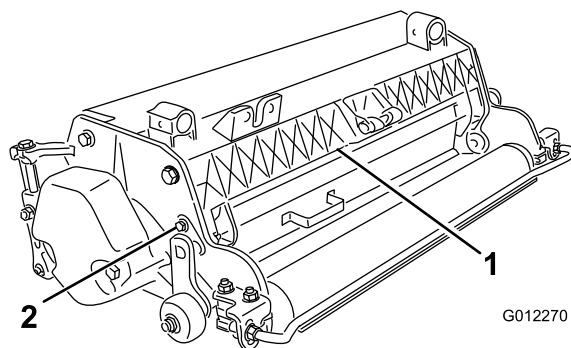

Figure 5
1. Loosen the bolts on the pivot of the grass shield (Figure 5).
2. Rotate the grass shield to the desired setting, and tighten the bolts (Figure 5).